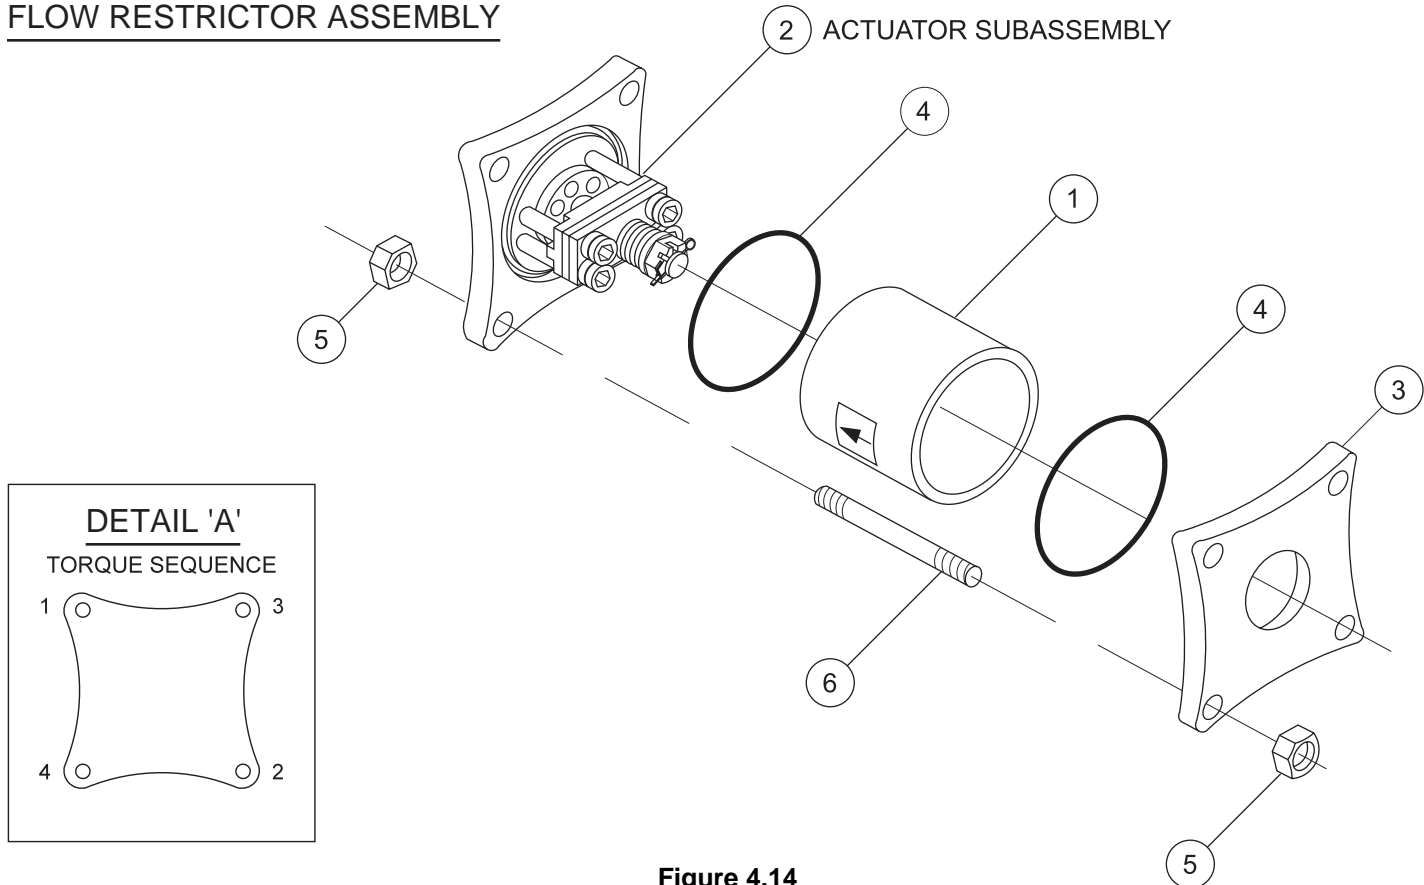

Figure 4.14
1. Disassemble/Build the flow restrictor assembly in the order shown by the Flow Restrictor Assembly Diagram (Figure 4.14).